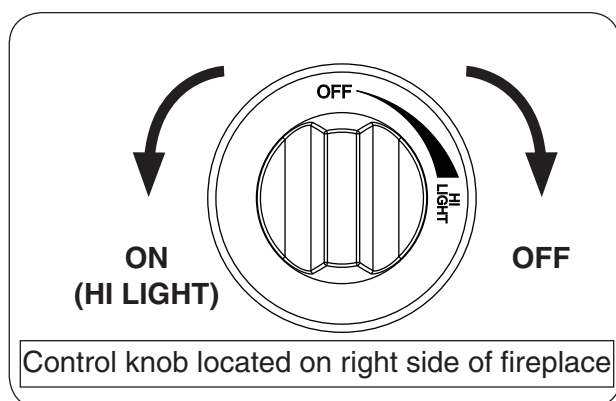

Fig. 19-2
4. **Once the match is burning and in position**, depress the gas control knob and turn it counter-clockwise to the **HI LIGHT** position (see Fig. 19-2). Your burner should light.
**WARNING:** If the burner does not light within five (5) seconds of turning the control knob, immediately depress the control knob and turn clockwise to the **OFF** position.
**To extinguish your gas burner**, depress the gas control knob and turn it clockwise to the **OFF** position (see Fig. 19-2). Be sure the control knob is turned fully off to avoid any gas leakage.